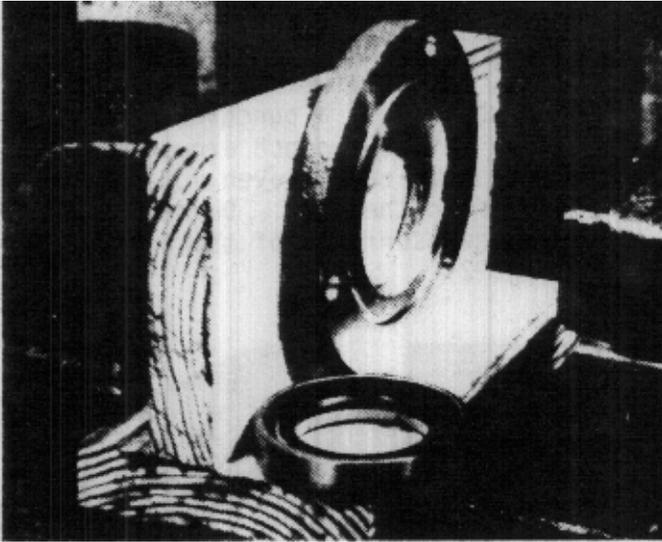

FIGURE 115
7. Place the seal plate between the open jaws of a machinist's vise with the cast surface against the stationary jaw. (Fig. 115)